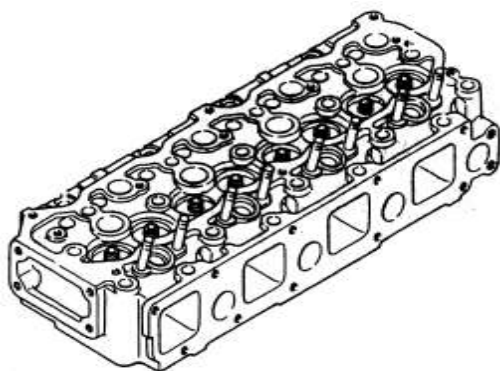

Fig. 2
**Cylinder Head** - made of high-grade cast iron, accommodating all cylinders, fitted with exchangeable, pre finished valve seats and valve guides. **Fig. 2**
**Crankshaft** - an alloy steel forging, mounted in five bearings with exchangeable shells. The main journals and crank-journals are induction hardened. **Fig. 2 A**